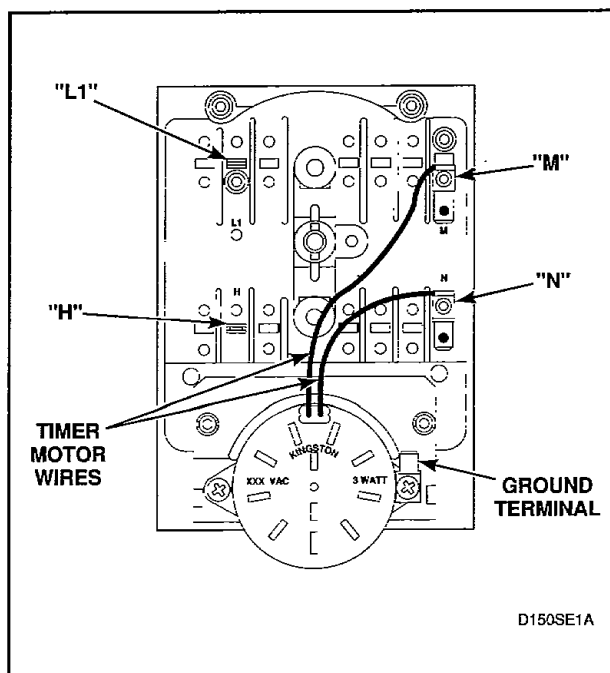

Figure 57
- Disconnect wires from timer, *Figure 57*, except timer motor wires.